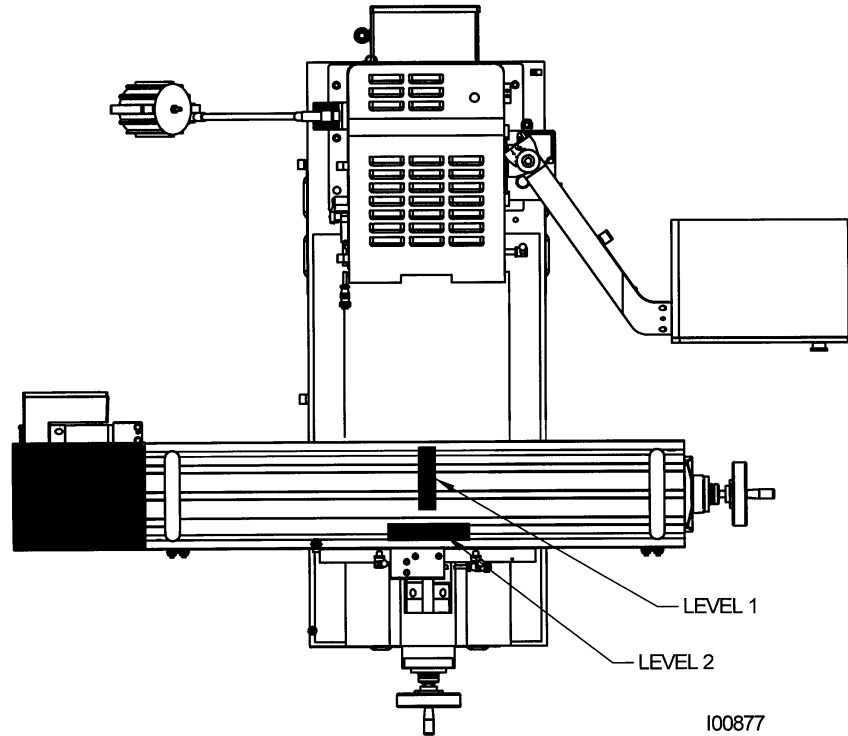

Figure 2-7 - Placement of Levels
2. Put one or two precision Spirit Levels or Electronic Levels in the center of the table in the positions illustrated in Figure 2-7.